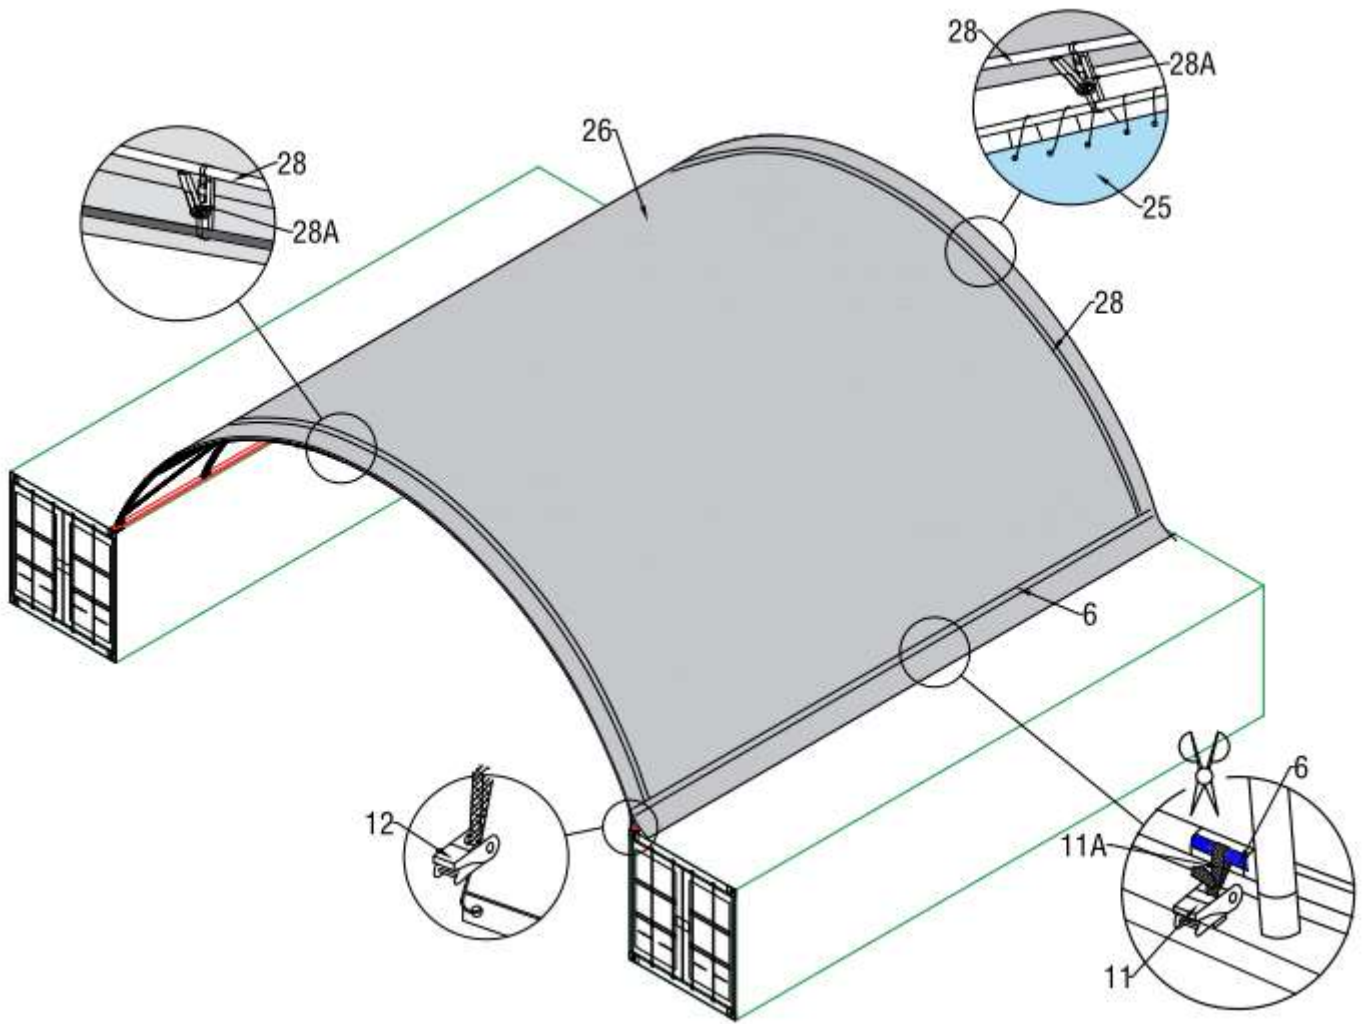

Figure 11
3. Cut some pockets over the Ratchet (No.11) on the the base plates and use Tensioning Straps (NO. 11A) to tie down the tensioning tube(No.6) like the Figure 11. Finally install the Plastic Plug for base rail section into two ends of the tension tubes.Finally knit them using rope as the figure above.